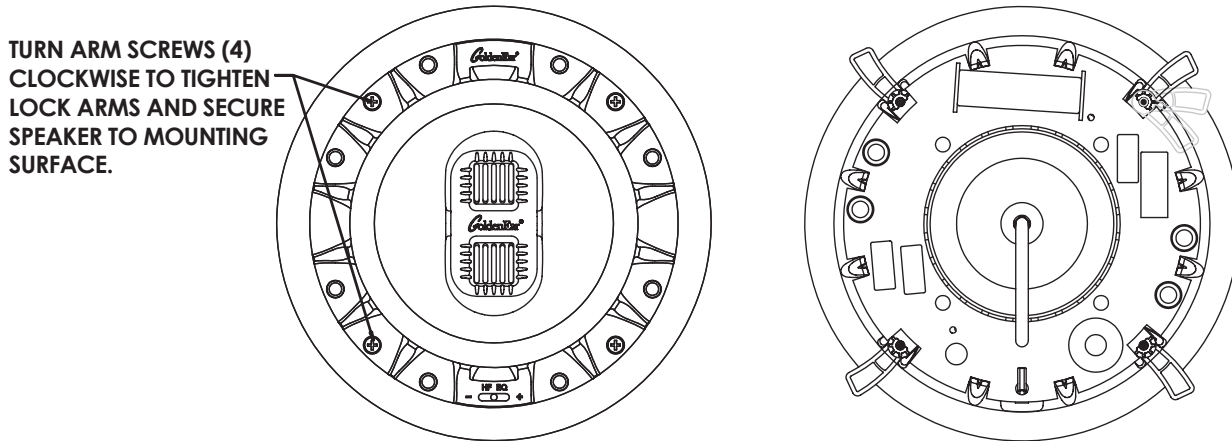

Figure 7
10. While holding in place, tighten the four lock arm screws with a screwdriver (Figure 7). This will rotate the lock arms and secure the speaker to the wall/ceiling. **DO NOT OVERTIGHTEN** the lock arm screws as this could damage the drywall. If you are using a power screwdriver or drill, set the torque to a value of no more than 7 in.-lb (8dN-m).